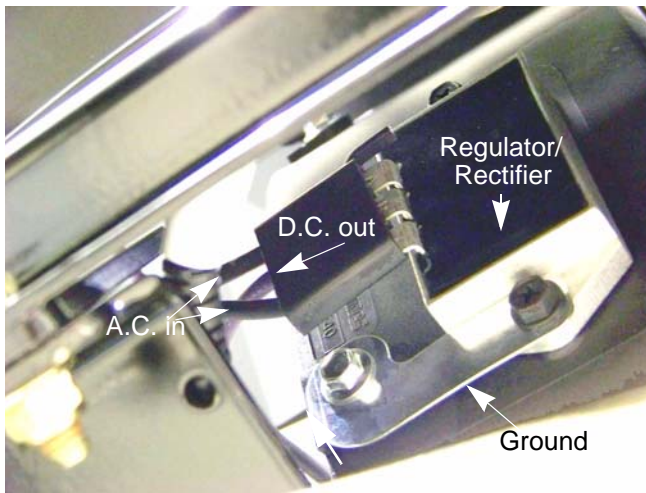

Figure 7.25
3. The regulator/rectifier takes alternating current and converts (rectifies) it to D.C. (Direct Current). The regulator rectifier also regulates the voltage to a nominal 12 volts. See Figure 7.25.